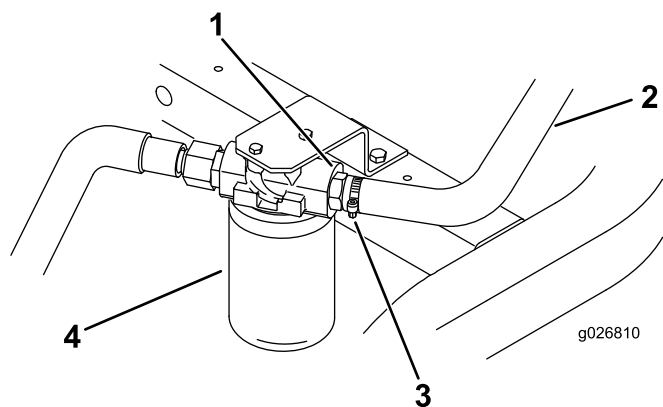
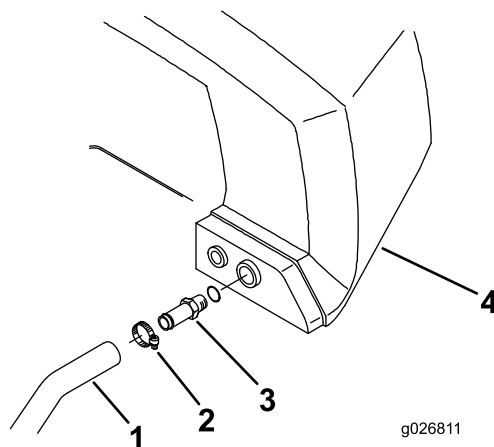

Figure 1
Figure 2
- Clean the area where the hose from the hydraulic reservoir connects to the fitting on the hydraulic filter mounting head (Figure 1 and Figure 2).
- On the other end of the hydraulic hose, remove the clamp and fitting from the hydraulic reservoir (Figure 2).